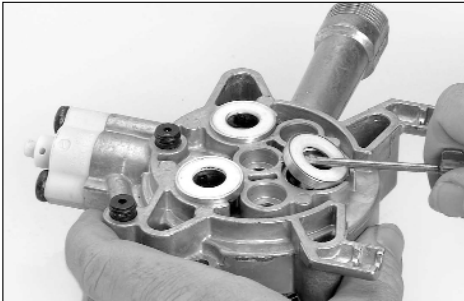

Figure 17
4. Turn over piston guide housing and pry out bushings. (figure 17)